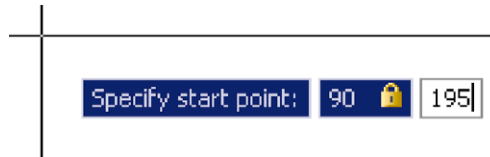

Fig. 3.25 Dynamic Input – first example – Polyline – the first prompt
2. To start the construction *click* at any point on screen. The prompt for the polyline appears with the coordinates of the selected point showing. *Left-click* to start the drawing (Fig. 3.25).